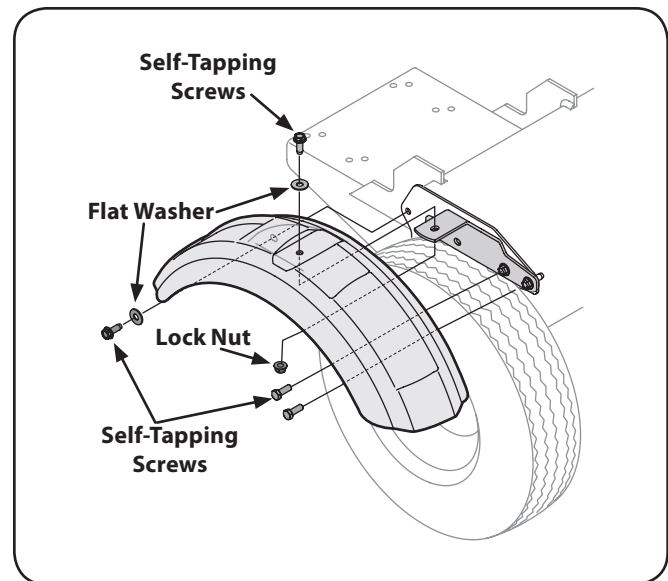

Figure 3-1
1. Remove all three self-tapping screws and the flat washer from one side of the reservoir tank. See Fig. 3-1.
3. Secure the fender bracket to the reservoir tank with two of the self-tapping screws removed in step one. See Fig. 3-1.